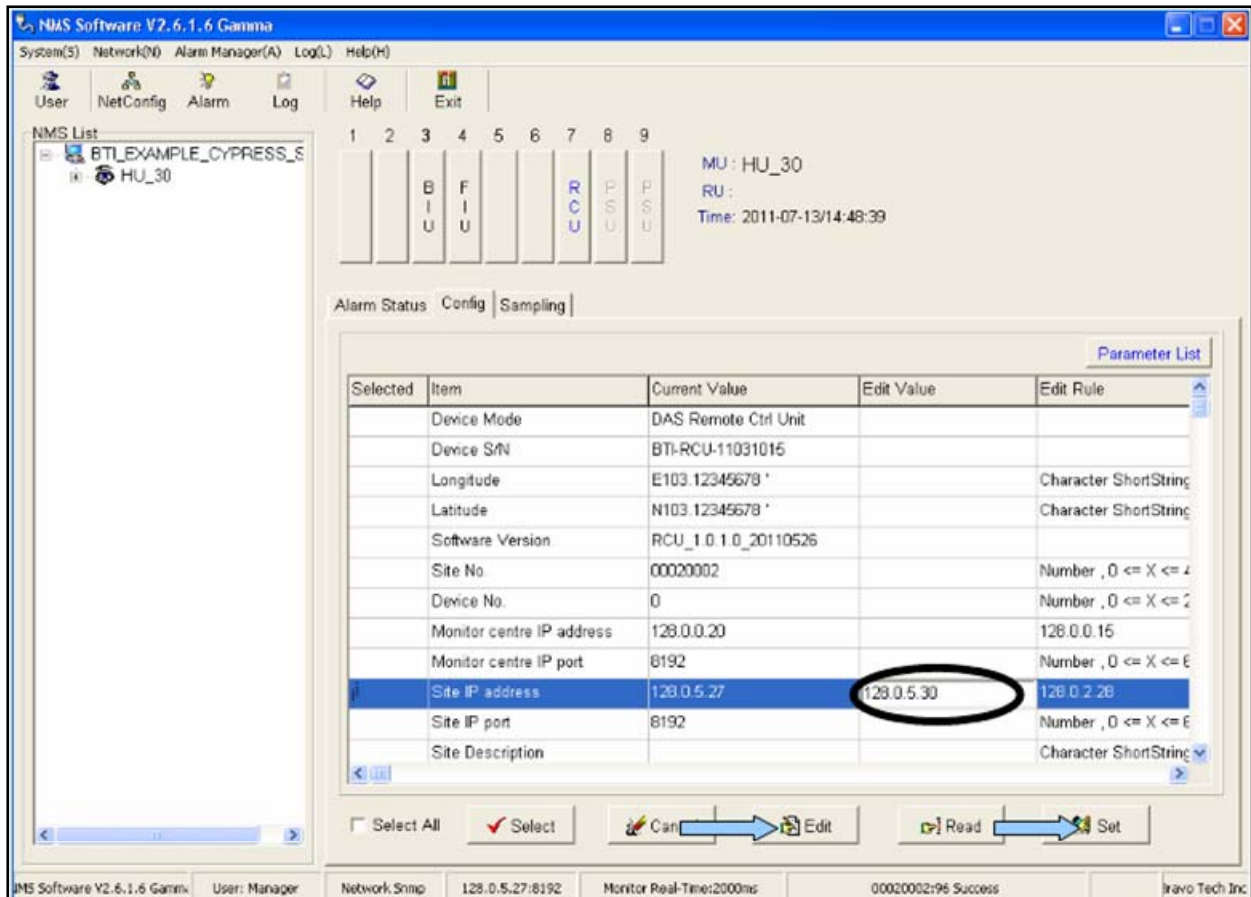

Figure 5-13. Enter the New IP Address
8. Enter the new IP Address in the Edit Value Column, **Figure 5-13**.